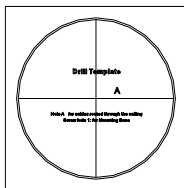

Figure 2-50 Drill Template
6. Fix the decorative rim with the bubble and the decorative rim will be attached to the in-ceiling bracket automatically, as shown in Figure 2-50.